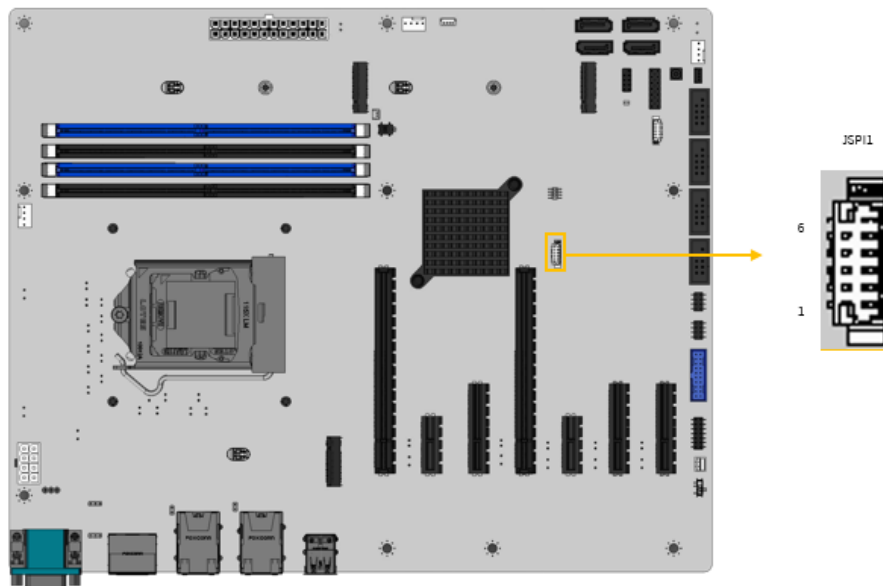

Figure 3-26: Flash SPI ROM Connector Location
- CN Location:** See Figure 3-26